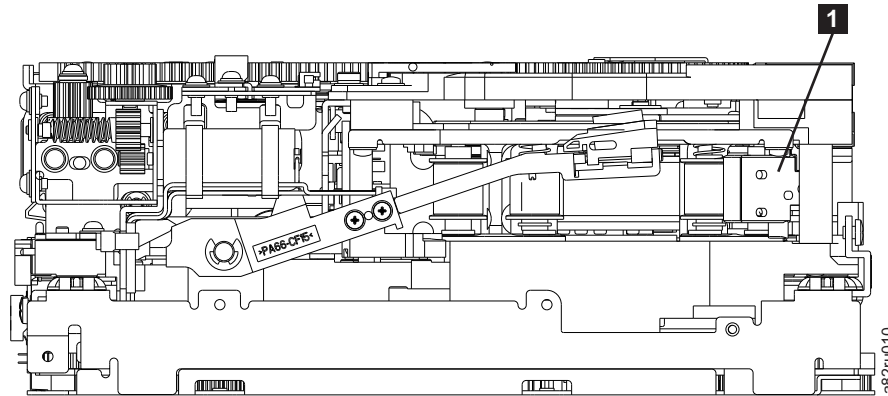

Figure E-12. Leader Block Assembly (LBA)
10. Rotate the threader motor worm gear (**4** in Figure E-11 on page E-12) to turn the threader mechanism gear (**6** in Figure E-11 on page E-12) counterclockwise. This moves the LBA out of the cartridge and past the read/write head. Stop this rotation when the LBA is near the tape guide roller nearest the rear of the drive shown as **1** Figure E-12.